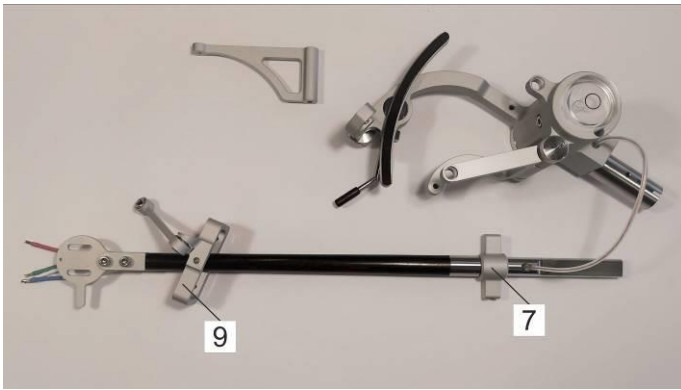

Figure 4
- e) Take tonearm frame with lever [9] and put it on armwand [7] so that the armwand [7] passes through the tonearm frame [9] (Figure 4).